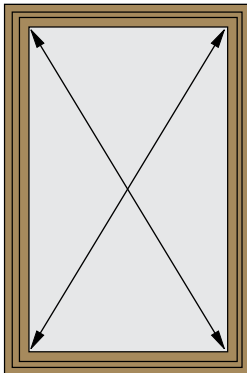

Fig. 1
**Lincoln Fit:** If the sizes differ greater than 1/4", you will have to downsize the unit accordingly in order to be able to square the new unit in the opening. See Fig 1.